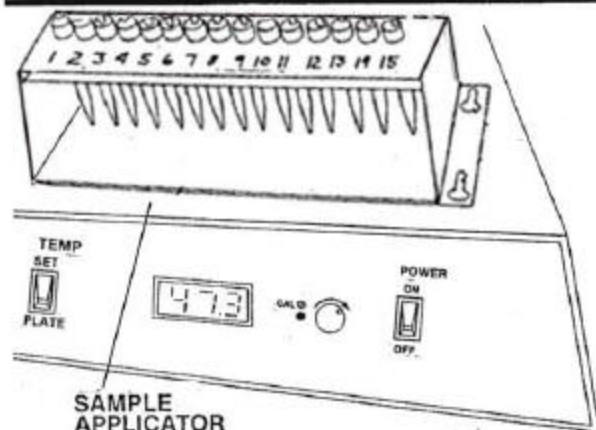

Figure 2A
- b. Place a TLC plate onto the Multi-Prep Spotter and set the heater temperatures to 80°C. Place the sample applicator rack into position over the plate using the locator pins as a guide, (Fig. 2A) and place three or more sample applicators into the rack.